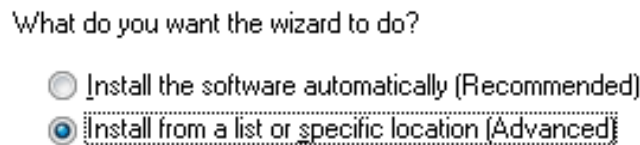

Figure 10. Install From Specific Location
- On the next screen select “Install from specific location” (see Figure 10) and click Next.